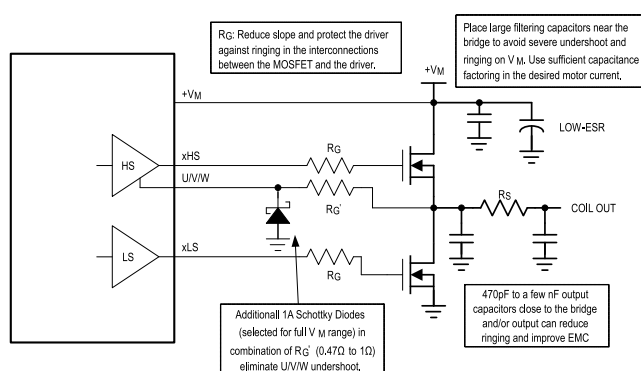

Figure 9: Bridge Protection Options and Power Routing Ringing Mitigation
Stray inductances in power routing cause ringing whenever the opposite MOSFET is in diode conduction prior to switching on a low-side or high-side MOSFET. Diode conduction occurs during break-before make time whenever the load current is inverse to the following bridge polarity. The MOSFET bulk diode has a certain, type-specific reverse recovery time and charge. This time typically is in the range of a few 10ns. During reverse recovery time, the bulk diode causes high current flow across the bridge. This current is taken from the power supply filter capacitors (see the thick lines in Figure 9). Once the diode opens, parasitic inductances try to keep the current flowing.
- Check influence of optional components shown in Figure 9.